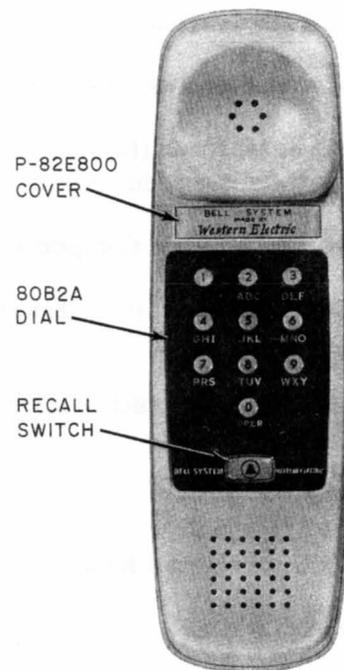
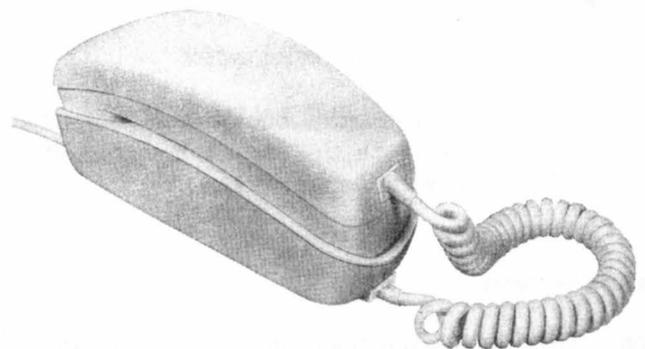

Fig. 1—1220A Hand Telephone Set
Fig. 2—AD1 Telephone Base With 1220A Hand Telephone Set
2.01 The 1220A hand telephone set (Fig. 1) is a component of the dial-in-handset TRIMLINE® telephone set. The hand telephone set is a complete telephone set except for the handset cord, ringer, and line switch which are housed in either a AD1 (Fig. 2) or AC1 telephone base.
4.02 *Recall Switch (Fig. 1):* Point out recall switch and explain advantages of switch. Example: If a person receives busy tone at conclusion of dialing a number, he may depress the recall switch for a few seconds; then release. Dial tone will again be heard. This is done in place of depressing line switch plunger on the telephone base.